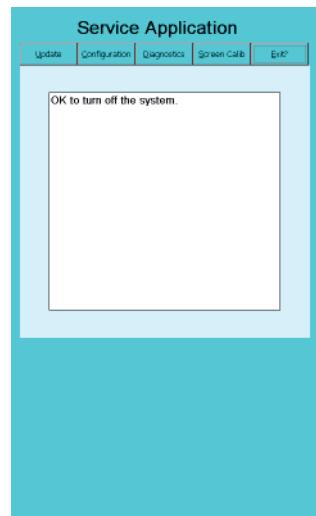

Figure 164 - Exit Panel
7. When you see the message, “OK to turn off the system,” power off the system to exit the service application (Figure 164).
1. If you suspect a faulty sensor, select Detect Sensors. The application displays the name of the sensor if it is working properly (Figure 164). You will see a dashed line, if it is faulty or missing. For a 2-gas system, the sensor for the N₂O will be a dashed line.